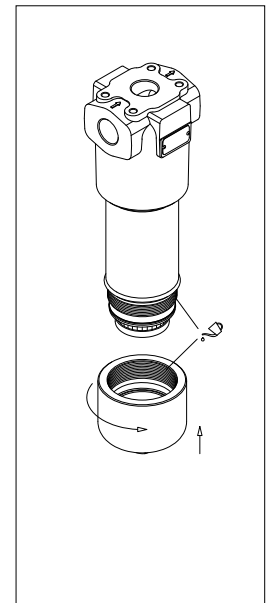

fig. 30
- (Fig. 30) Lubricate the thread and the O-ring of the bowl, then screw the bowl cover in referring to the tightening torque table in paragraph 3